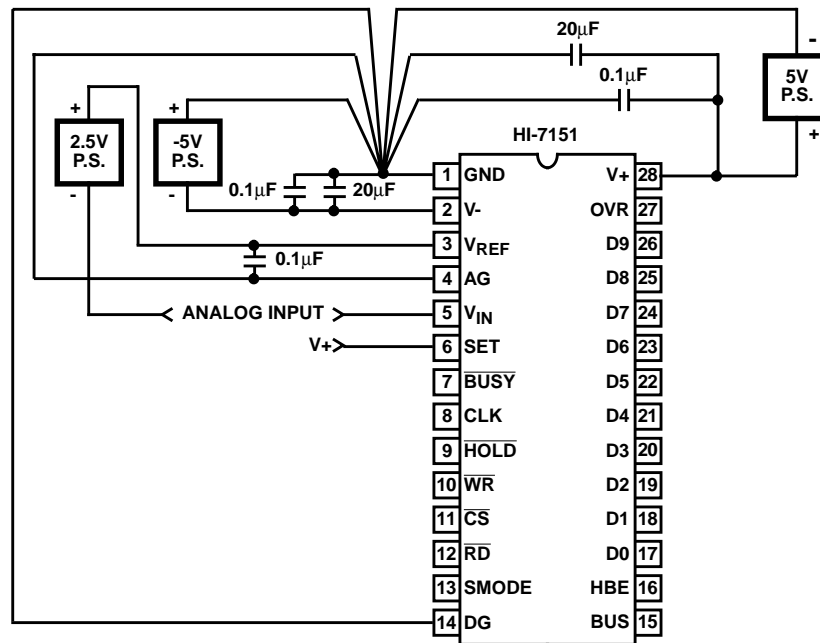

FIGURE 4. GROUND AND POWER SUPPLY DECOUPLING
The HI-7151 has three ground pins (AG, DG, GND) for improved system accuracy. Proper grounding and bypassing is illustrated in Figure 4. The AG pin is a ground pin that does not carry any current and is used internally as a reference ground. The reference input and analog input should be referenced to the analog ground (AG) pin. The digital inputs and outputs should be referenced to the digital ground (DG) pin. The GND pin is a return point for the supply current of the comparator array. The comparator array is designed such that this current is approximately constant at all times and does not vary with input voltage. By virtue of the switched capacitor nature of the comparators, it is necessary to hold GND firmly at zero volts at all times. Therefore, the system ground star connection should be located as close to this pin as possible.